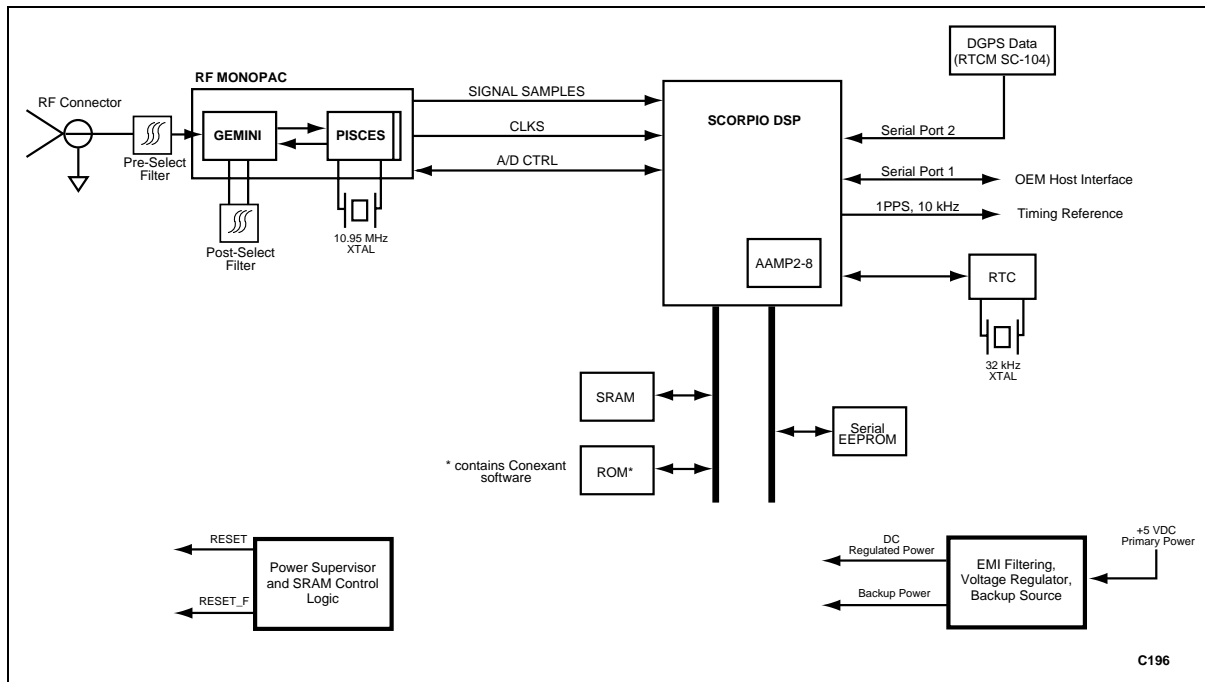

Figure 3. Jupiter Receiver Architecture
Receiver Architecture. The functional architecture of the Jupiter receiver is shown in Figure 3. The receiver design is based on the Conexant Zodiac chip set: the Gemini/Pisces Monopac™ and the Scorpio DSP, which contain the required GPS functionality. The Gemini/Pisces Monopac™ contains all the RF downconversion and amplification circuitry, and presents the In-Phase (I) and Quadrature-Phase (Q) Intermediate Frequency (IF) sampled data to the Scorpio device. The Scorpio device contains an integral microprocessor and all the required GPS-specific signal processing hardware. Memory and other external supporting components configure the receiver into a complete navigation system.